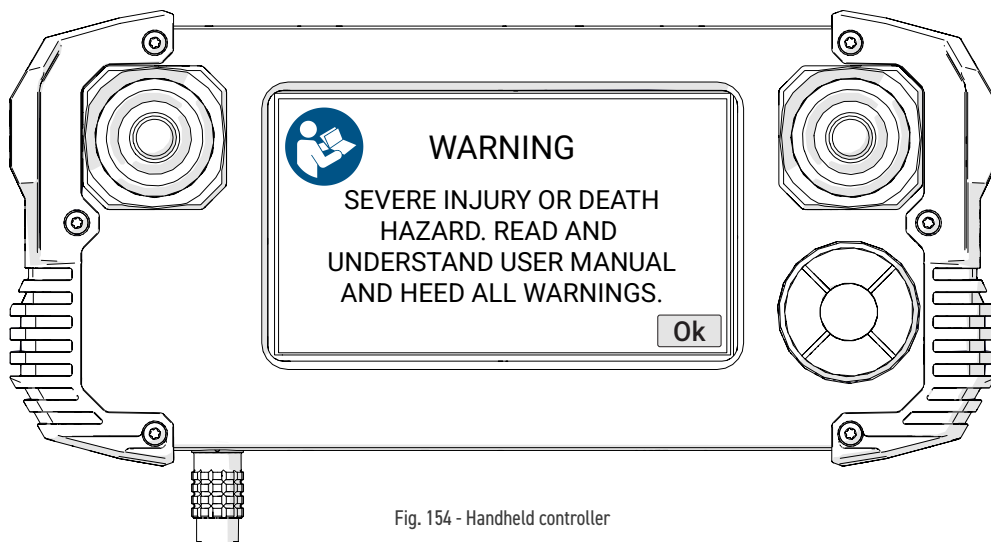

Fig. 154 - Handheld controller
5. A warning message will display on the handheld controller when power has been activated. Once the dangers of using the **TRIPOD** are recognized and understood by reading this user manual, touch **Ok** to acknowledge the warning (Fig. 154).